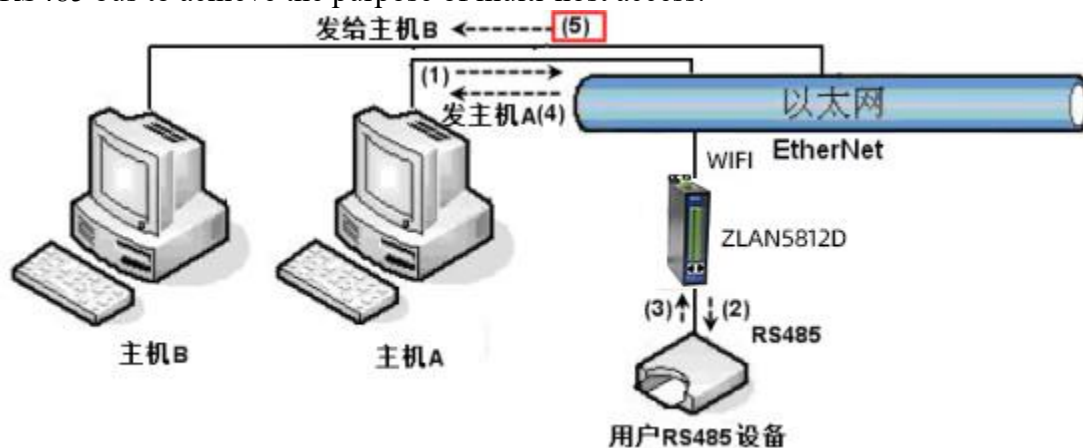

Figure 46 Multi-host function demonstration
As shown in Figure 46, when two hosts: host A and host B are connected to the serial port server at the same time, host A sends (1) instruction, RS485 device receives (2) instruction, RS485 device returns (3) instruction, but the port end of the serial port server sends (4) to host A and (5) to host B at the same time. Because host B did not send the query, but it also received the reply instruction (5), host B may generate a communication exception error. In multi-host mode, there will be only instructions (4) and no instructions (5), because the serial server will automatically remember the host that needs to be returned, and only the command will be returned
As shown in Figure 46, if the serial port device (RTU device) acts as the primary station and the network port device (Modbus TCP device) acts as the secondary station, there are multiple network port secondary devices at the same time. In this case, you can use the method described in the section about Connecting a Client to multiple servers to enable the serial port server to connect to multiple network ports simultaneously as a client.